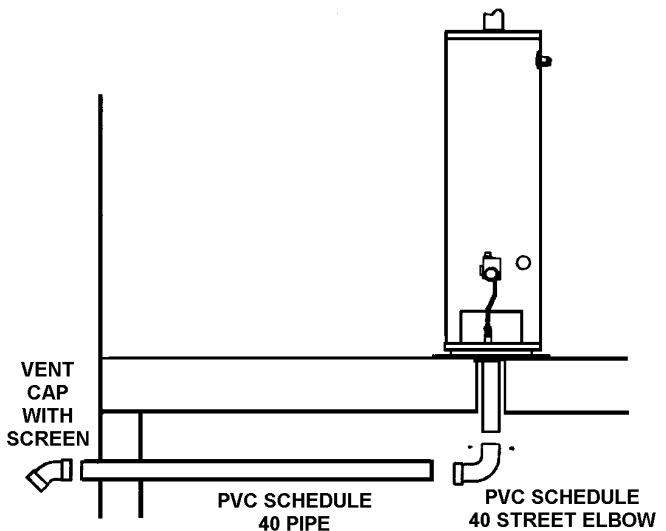

FIGURE 20.
4. Attach a 3" (7.62 cm) or 4" (10.16 cm) PVC street elbow to the metal air intake vent using 3 sheet screws. Continue PVC piping to outside wall and terminate with vent cap and screen, see Figure 20.